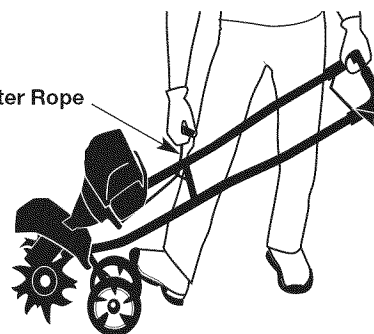

Fig. 7
WARNING: Avoid accidentally starting the unit. To avoid serious injury, the operator and the unit must be in a stable position when pulling the starter rope (Fig. 7).
5. Stand in the starting position (Fig. 7). Hold the handlebar with one hand. Hold the starter rope with the other hand. Use one foot to hold the wheels in place.